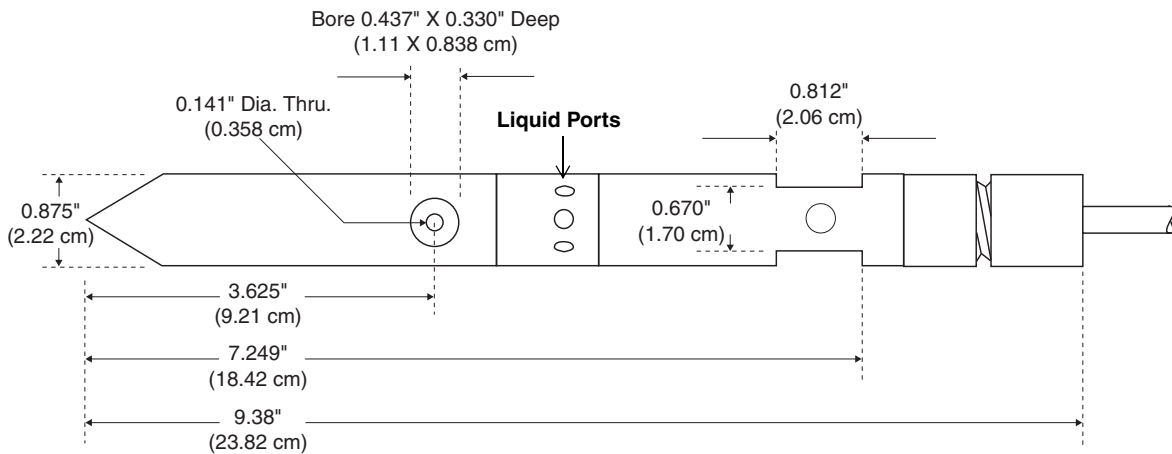

Figure 4-1 Submerged Probe Dimensions
- 4.4.4 Weirs and Flumes** The 4220 Flow Meter is generally used with some type of primary measuring device, such as a weir or flume. The placement of the submerged probe in the primary device is determined by the type of primary device. You can use one of Isco's mounting rings to install the probe in many weirs and flumes. If the mounting ring are not suitable, you must build your own mounting hardware. Figure 4-1 shows the dimensions of the probe for your reference when building your own hardware. Figure 4-8 shows the probe installed in several primary devices. Certain flume manufacturers produce flumes with built-in cavities for Isco's submerged probe. Contact the flume manufacturer for details on the special flumes.